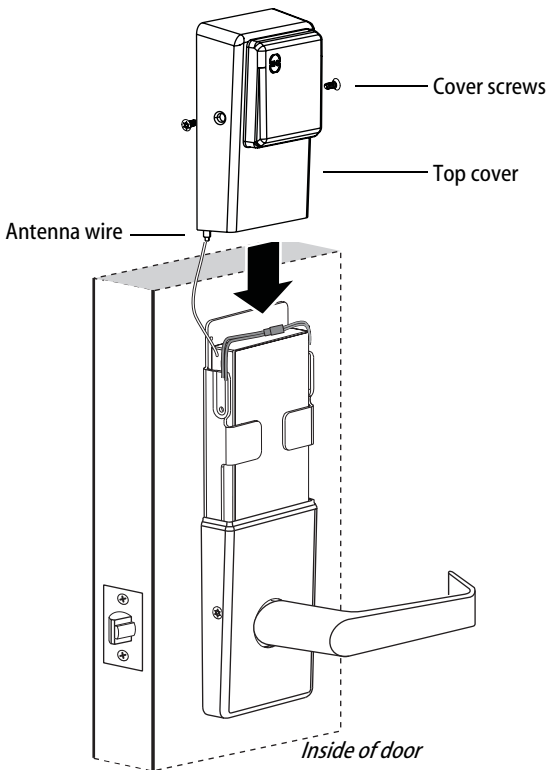

Figure 20b Installing the top cover
- 2 Place the top cover against the door and above the fire plate. Slide the top cover down toward the bottom cover as shown in Figure 20b.
- 3 Use two cover screws to secure the cover to the side of the fire plate, as shown in Figure 20b.